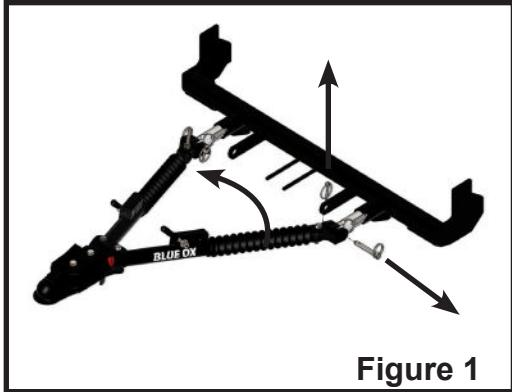

Figure 1
2. Disengage the leg latches by pushing down on the locking handles. Uncouple the tow bar from the receiver ball. On the driver side, remove the quick pin and 1/2" pin attaching the triple lug to the attachment tab. You may need to tap the 1/2" pin out if there is still pressure on it. Rotate the driver side leg over onto the passenger side leg (Figure 1).